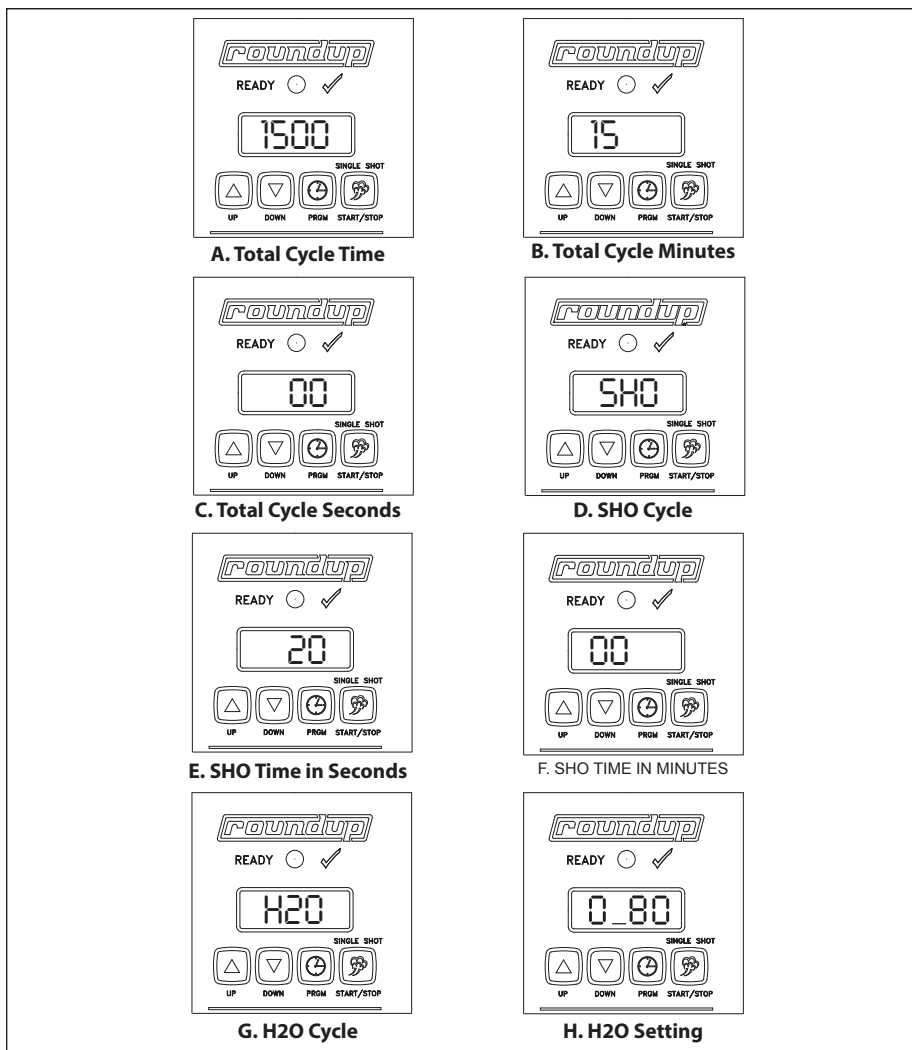

Figure 6. Control Programming Sequence
To program the control, refer to Figure 6 and follow the procedure below:
1. Turn the unit on. The unit displays the factory programmed Total Cycle Time in minutes and seconds (Figure 6, Item A).
3. To change the Total Cycle Time in minutes, press  or  to change the time (Figure 6, Item B).
4. Press and release  again, and press  or  to change the Total Cycle Time in seconds (Figure 6, Item C).
5. To change the SHO factory settings, make sure the control is in PROGRAM mode, then press and hold both  and  simultaneously for 1-2 seconds and release. SHO will be displayed (Figure 6, Item D).
6. Press and release  and then press  or  to change the SHO in seconds (Figure 6, Item E).
7. Press and release  again and press  or  to change the SHO in minutes (Figure 6, Item F).
8. Press and release  again and "H2O" will be displayed (Figure 6, Item G).
9. To change the H2O (Steam Shot time), press and release the Program button again to display the setting (Figure 6, Item H). Use  or  to increase or decrease the time.